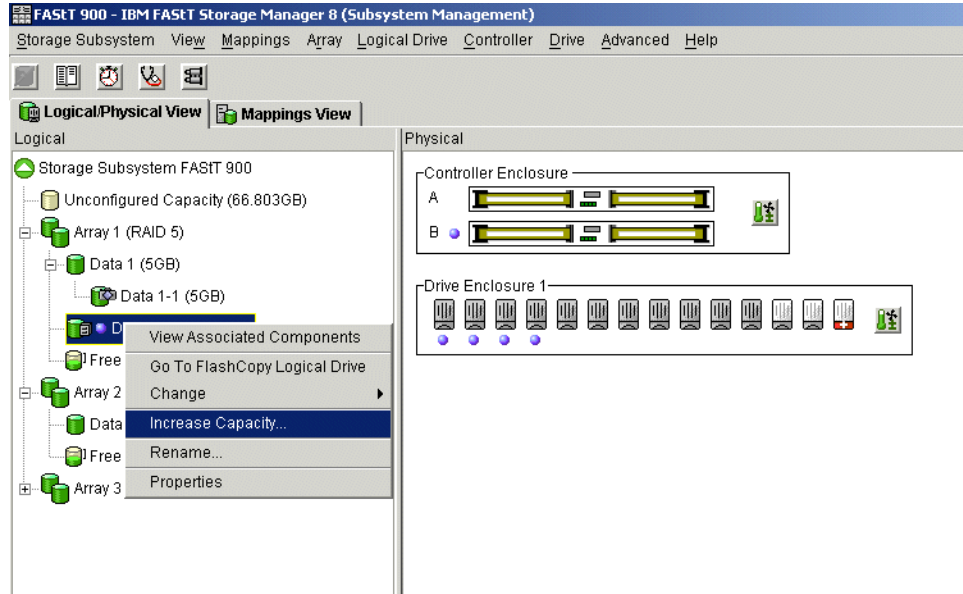

Figure 7-41 FlashCopy Repository Logical Drive - Increase Capacity
2. Click **Logical Drive -> Increase Capacity**. Or right-click and select **Increase Capacity** (Figure 7-41 on page 229).